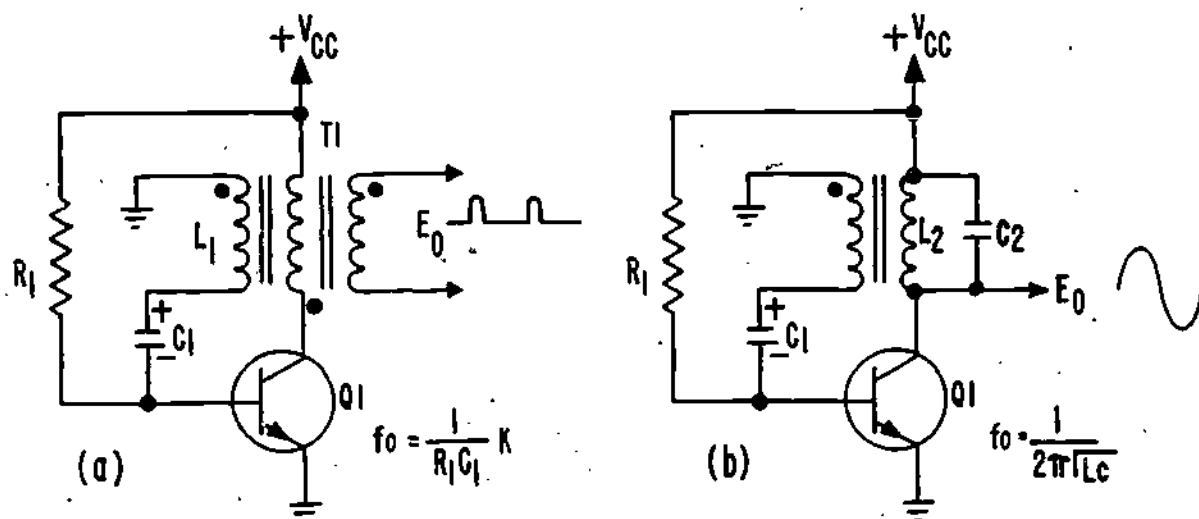

Figure 6
- a. Pulse Width (PW)
9. The schematics shown in Figure 6 are for a free running blocking oscillator and a basic Armstrong oscillator.